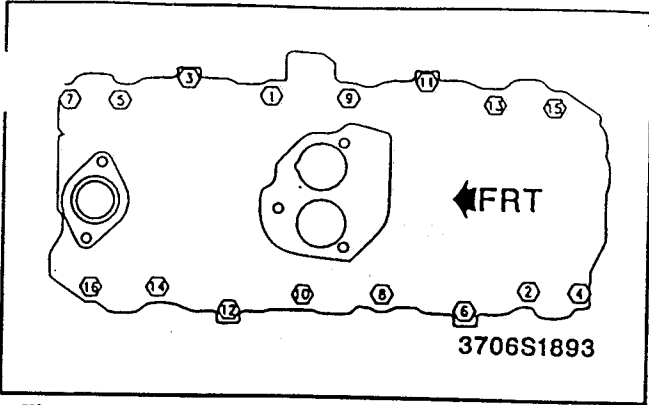

Figure 97—Intake Manifold Tightening Sequence (7.4L Engines)
• Bolts (20) to 40 N.m (30 lbs. ft.). Use the tightening sequence shown in figure 97.